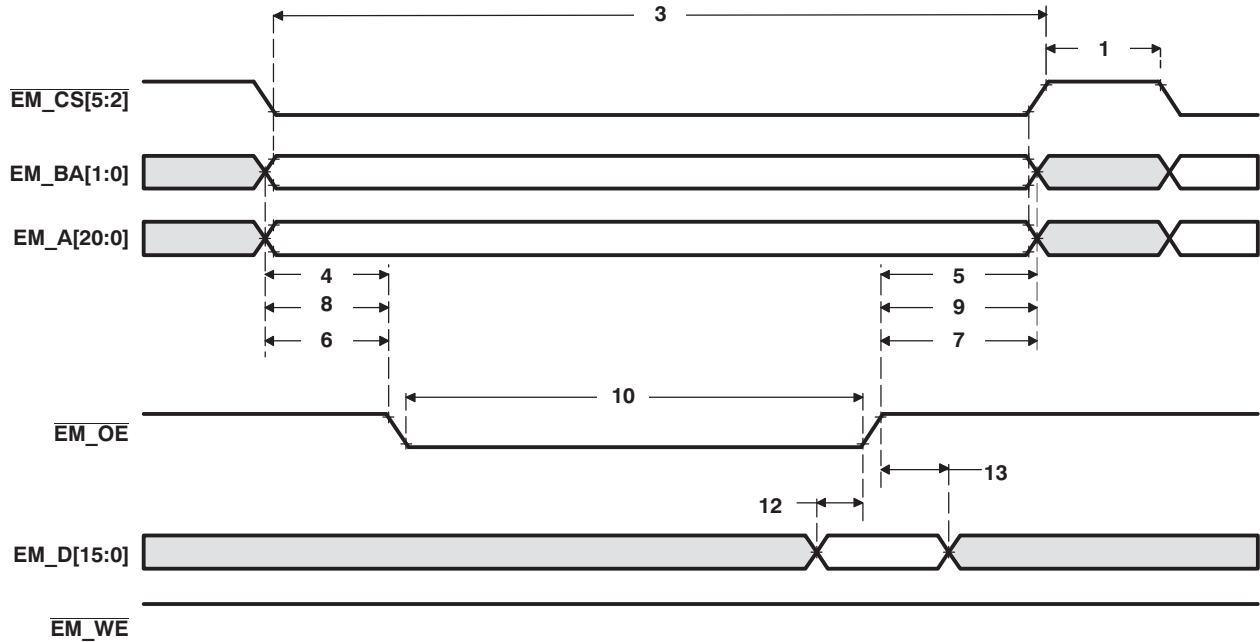
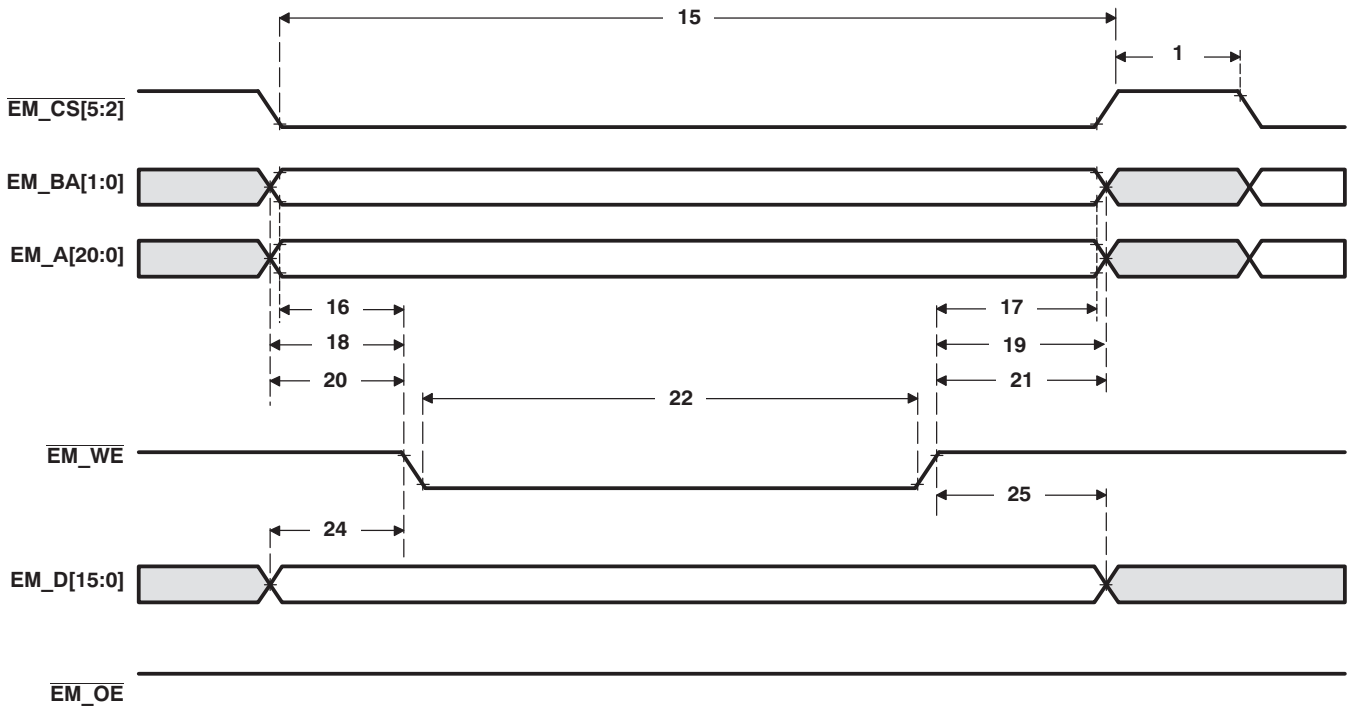
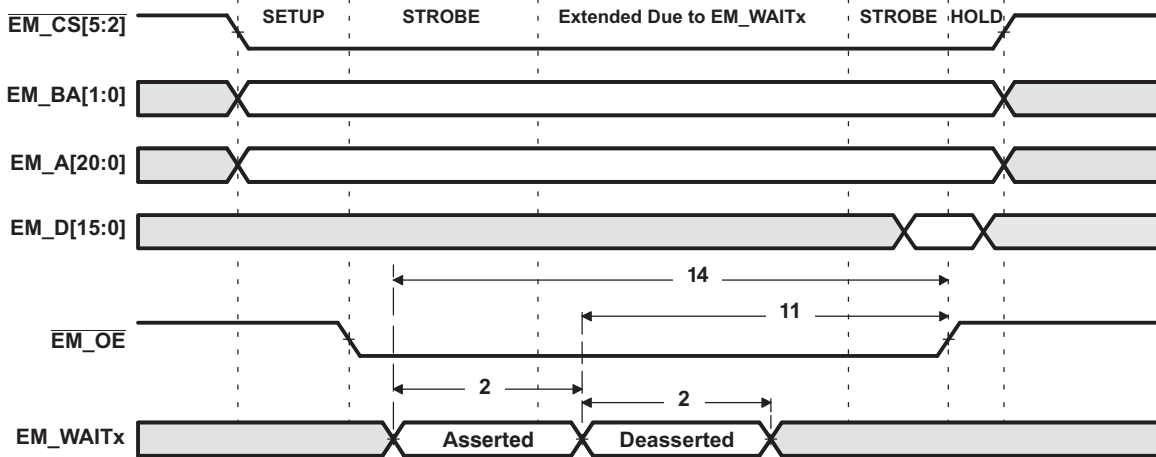
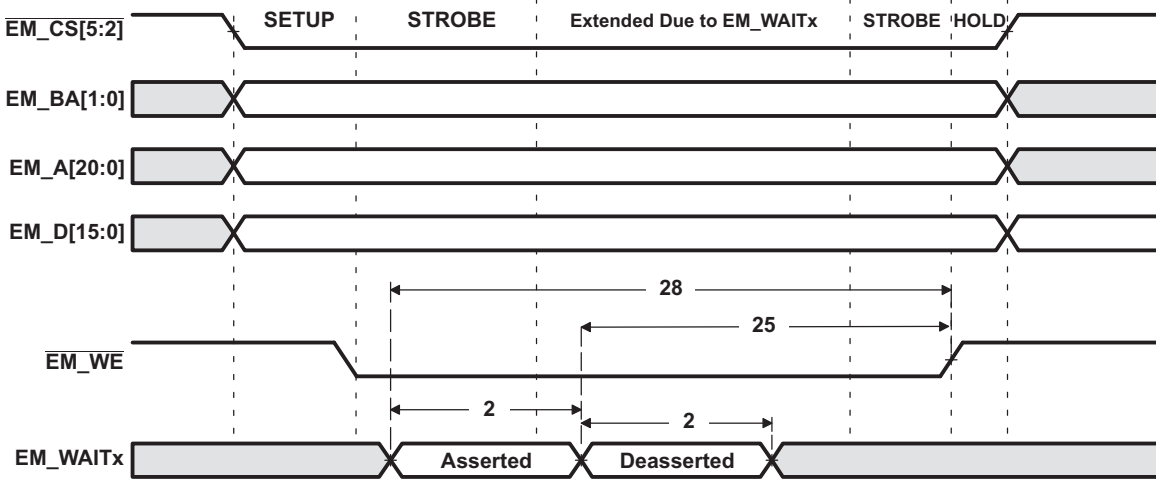

Figure 6-14. Asynchronous Memory Read Timing for EMIF
Figure 6-15. Asynchronous Memory Write Timing for EMIF
Figure 6-16.  $EM\_WAITx$  Read Timing Requirements
Figure 6-17.  $EM\_WAITx$  Write Timing Requirements
**Table 6-12. Switching Characteristics Over Recommended Operating Conditions for EMIF Asynchronous Memory(1) (2) (see Figure 6-15 and Figure 6-17)(3)**
- (1) TA = Turn around, RS = Read setup, RST = Read strobe, RH = Read hold, WS = Write setup, WST = Write strobe, WH = Write hold, MEWC = Maximum external wait cycles. These parameters are programmed via the Asynchronous Configuration and Asynchronous Wait Cycle Configuration Registers.
- (2) E = SYSCLK period in ns, if EMIF is set for "full rate" or E = SYSCLK/2 period in ns, if EMIF is set for "half rate" as defined by bit 14 of the EMIF Status register (0x1001h). For example, when EMIF is set to full rate and SYSCLK is selected and set to 100 MHz, E = 10 ns.
- (3) EWC = external wait cycles determined by EM\_WAITx input signal. EWC supports the following range of values EWC[256-1]. Note that the maximum wait time before timeout is specified by bit field MEWC in the Asynchronous Wait Cycle Configuration Register.
**Table 6-12. Switching Characteristics Over Recommended Operating Conditions for EMIF Asynchronous Memory (1) (2) (see Figure 6-15 and Figure 6-17) (3) (continued)**
**Table 6-13. Timing Requirements for EMIF Asynchronous Memory(1) (see Figure 6-14, Figure 6-16, and Figure 6-17)**
- (1) E = SYSCLK period in ns, if EMIF is set for "full rate" **or** E = SYSCLK/2 period in ns, if EMIF is set for "half rate" as defined by bit 14 of the EMIF Status register (0x1001h). For example, when EMIF is set to full rate and SYSCLK is selected and set to 100 MHz, E = 10 ns.
- (2) Setup before end of STROBE phase (if no extended wait states are inserted) by which EM\_WAITx must be asserted to add extended wait states. Figure 6-16 and Figure 6-17 describe EMIF transactions that include extended wait states inserted during the STROBE phase. However, cycles inserted as part of this extended wait period should not be counted; the 4E requirement is to the start of where the HOLD phase would begin if there were no extended wait cycles.
**Table 6-14. Switching Characteristics Over Recommended Operating Conditions for EMIF Asynchronous Memory(1) (2) (3) (see Figure 6-14, Figure 6-16, and Figure 6-17)**
**Table 6-14. Switching Characteristics Over Recommended Operating Conditions for EMIF Asynchronous Memory (1) (2) (3) (see Figure 6-14 , Figure 6-16 , and Figure 6-17 ) (continued)**